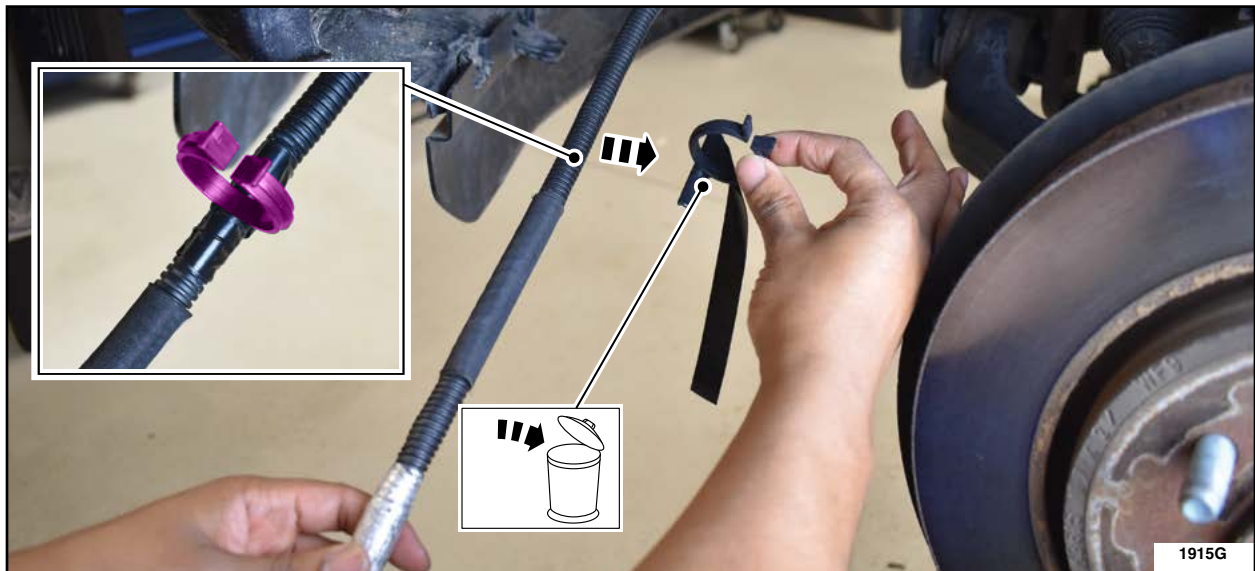

FIGURE 10
- Remove and discard the large C-clip, that was attached to the lower oil cooler coolant hose, from block heater cable by removing the tape holding it to the block heater cable. See Figure 10.